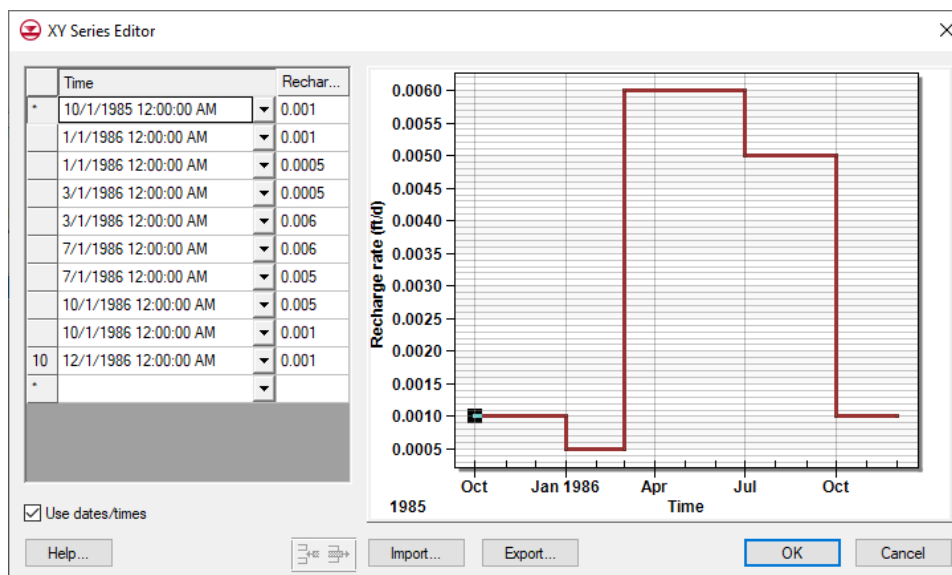

Figure 3: XY Series Editor showing recharge rate
8. Enter the data from the following table into the appropriate columns and rows in the *XY Series Editor* dialog spreadsheet (can be copy and pasted by column). Once done, the dialog should appear as in Figure 3.
Depending on the computer settings, the dates may be formatted differently than shown in Figure 3. Those shown above are formatted *month/day/year*.